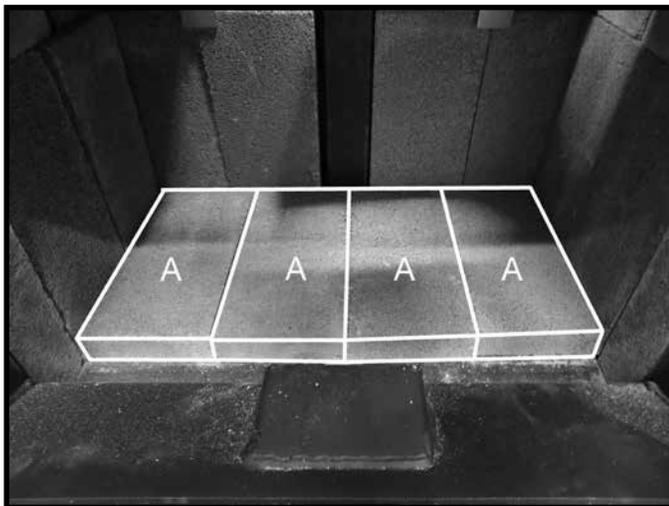

Figure 24: Four floor bricks in place.
3. Place four "A" firebricks on the firebox floor as shown in Figure 24.